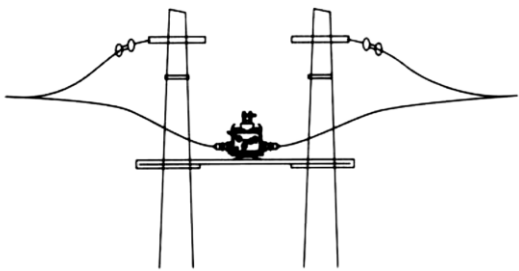

Figure 8 Circuit breaker double-pole installation method
7.4 The circuit breaker can be installed on a single pole or two poles (see Figures 8 and 9).